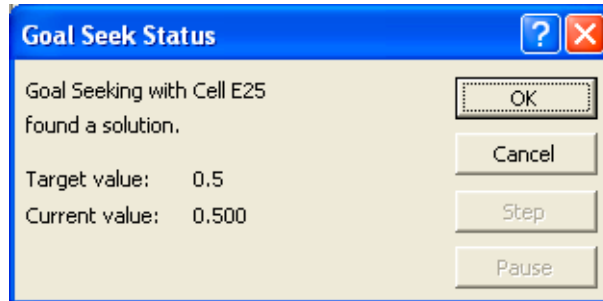

Figure 16 Goal Seek Status
- 3 Click **OK**. The function finds the inlet pressure that produces 0.5 psig splitter pressure (Figure 16).